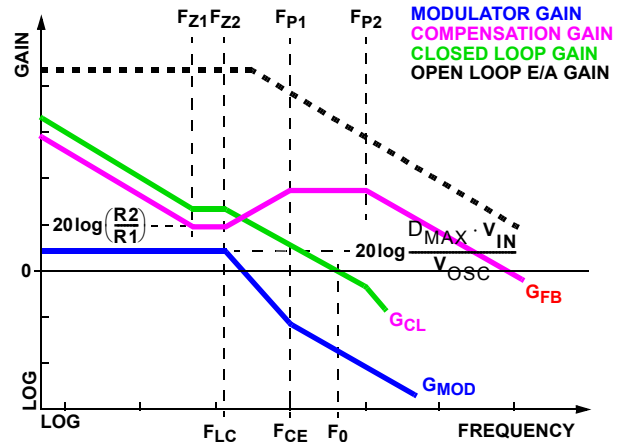

FIGURE 10. ASYMPTOTIC BODE PLOT OF CONVERTER GAIN
Figure 10 shows an asymptotic plot of the DC/DC converter's gain vs frequency. The actual modulator gain has a high gain peak dependent on the quality factor (Q) of the output filter, which is not shown. Using the previous guidelines should yield a compensation gain similar to the curve plotted. The open loop error amplifier gain bounds the compensation gain. Check the compensation gain at F_{P2} against the capabilities of the error amplifier. The closed loop gain, G_{CL} , is constructed on the log-log graph of Figure 10 by adding the modulator gain, G_{MOD} (in dB), to the feedback compensation gain, G_{FB} (in dB). This is equivalent to multiplying the modulator transfer function and the compensation transfer function and then plotting the resulting gain.